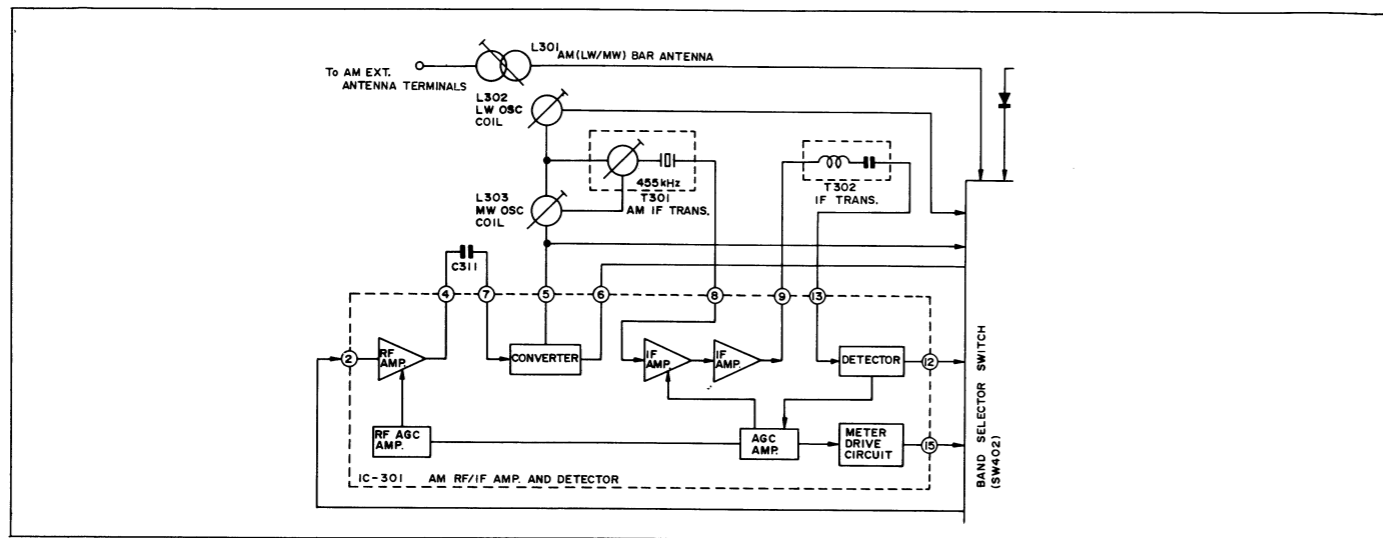

Figure 19 BLOCK DIAGRAM OF IC301
Figure 19 is a block diagram of IC301. The coil L301 is AM ferrite bar antenna and it serves as antenna tuning circuit. Being received by the coil L301, MW and LW broadcast signals are applied to the terminal ② of the integrated circuit IC301 to be amplified by RF amplifier and then be supplied to the converter via the capacitor C311. L302 and L303 are oscillation coils for MW and LW local oscillation circuit. MW and LW broadcast signals are thus converted to 455kHz IF signal by the converter to be applied to the transformer